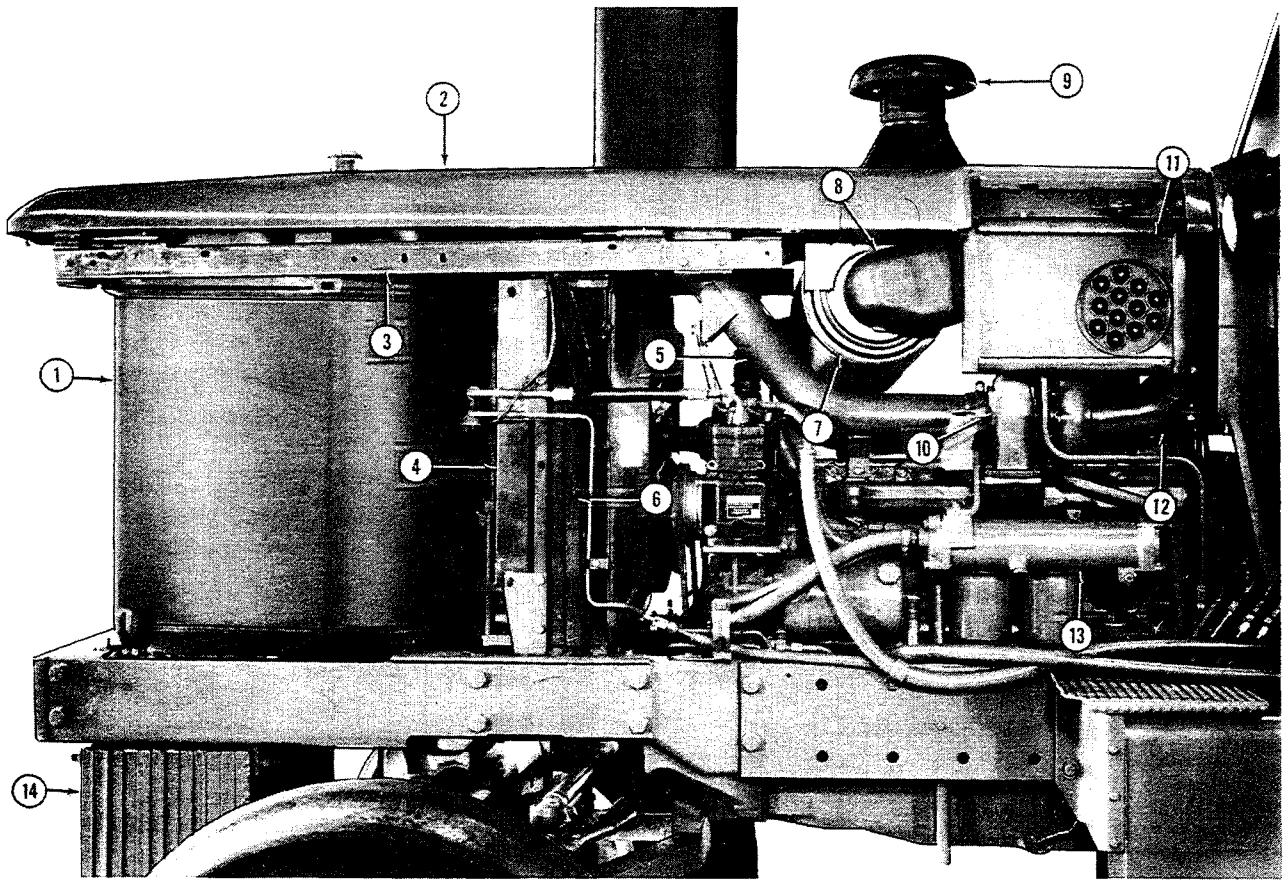

Figure 6
Air Cleaner — Remove 4 mounting bolts, aspirator hose and air cleaner to turbocharger tube. Remove the air cleaner, Figure 6.
Intercooler — Remove the grille support (11), Figure 6. Remove the air cleaner-to-turbo tube and hose. Disconnect the intercooler-to-turbo tube. Disconnect the aspirator hose. Remove the intercooler assembly (8 bolts).